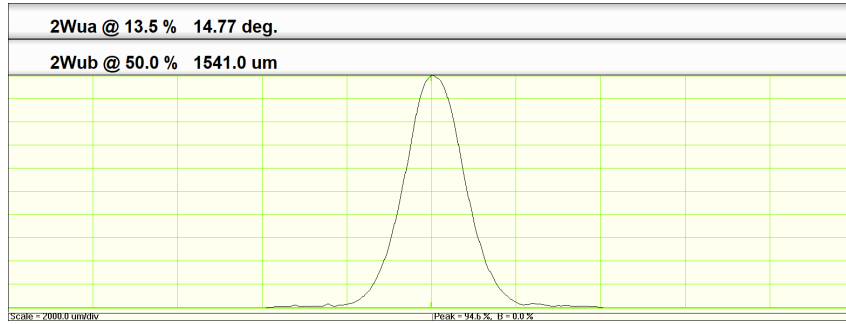

Figure 3: An example profile, showing general shape of profile data and measurement display after enabling angular divergence
1. Set the instrument at a distance from the source such that the beam diameter is within its measurement capability. The profile should be continuous and have 'tails' which go to zero as seen in Fig. 3.
3. Select **Enable Angular Divergence** and select a **Full angle** unit to be displayed above the profile, as in Fig. 3.